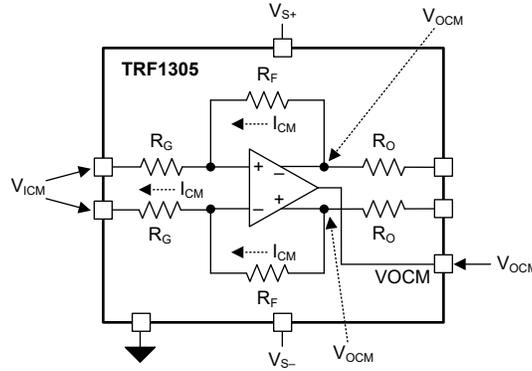

Figure 8-8. Net DC Current Flow When Input and Output Common-Mode Voltages are not Equal
The TRF1305x1 accept a wide range of input dc common-mode (CM) voltages. Take into consideration the dc current loading of the source when the TRF1305x1 is dc coupled at the input. Figure 8-8 shows that when the input CM voltage,  $V_{ICM}$ , is different than the output CM voltage,  $V_{OCM}$ , a net dc current flow from or to the source occurs. Equation 1 shows the relationship that the source or sink current,  $I_{CM}$ , has with the input and output CM voltages: